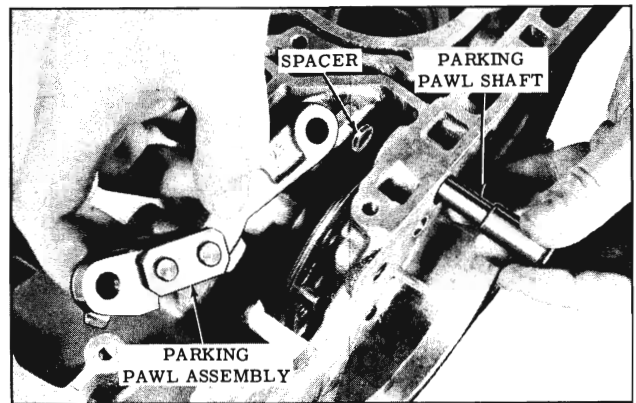

Fig. 3-236 Removing Parking Pawl
- 29. Remove the parking pawl assembly. (Fig. 3-236)